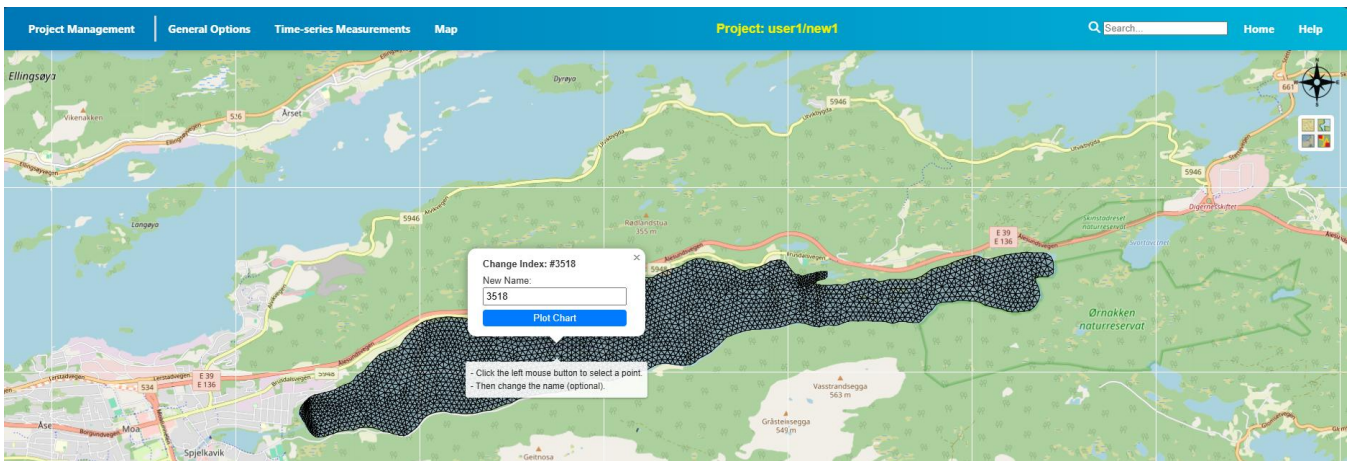

Figure 5.7. Select location for thermocline chart
- Select location from the grid printed on map (Figure 5.7). Change name of point if you prefer for another name. Hit “**Plot Chart**” to draw.